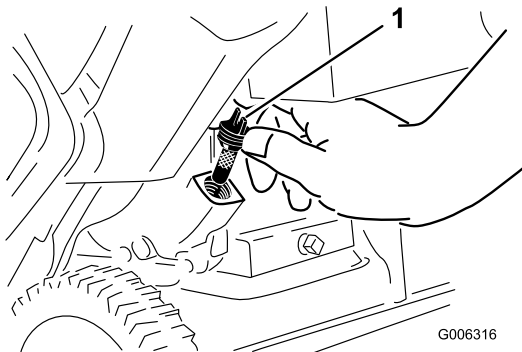

Figure 26
6. Clean around the oil fill cap (Figure 26).
7. Unscrew the oil fill cap and remove it (Figure 26).